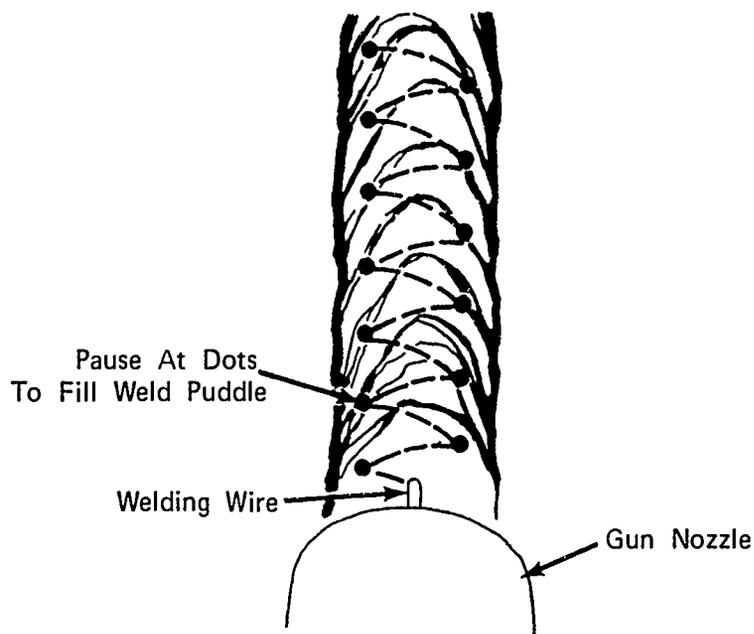

FIGURE 4
- H. Using a weaving motion, pause on the sides of the joint and travel at speed to fill joint completely (Figure 4)